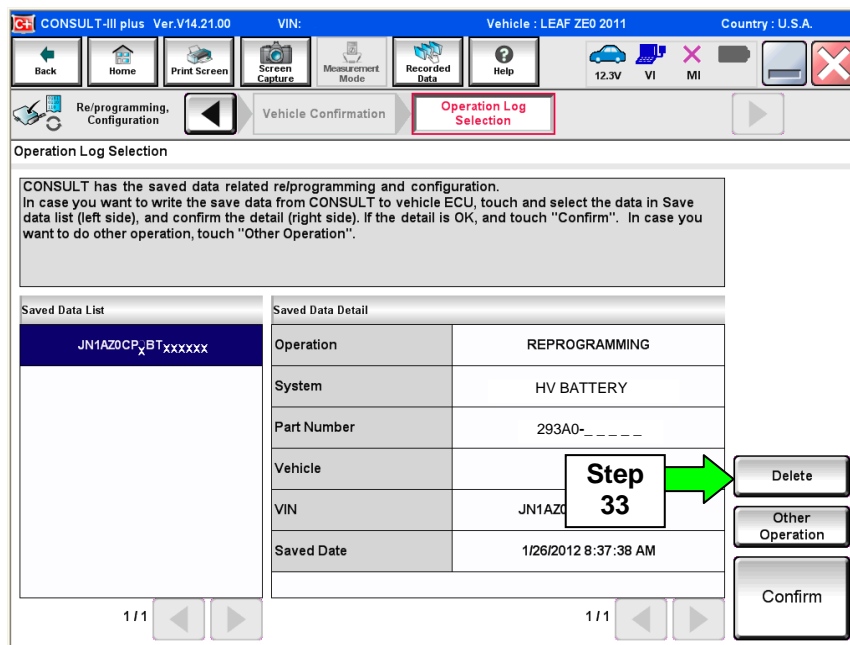

Figure 29
33. If the screen in Figure 29 appears, first select **Delete** then **Confirm**, and then **Other Operation**.